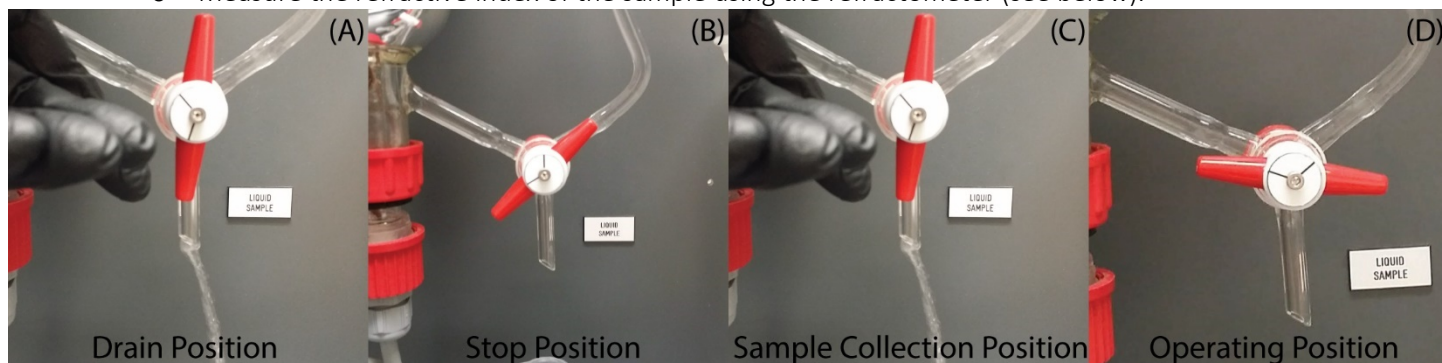

Figure 2 Liquid valve positions. A. Drain position, B. Stop position, C. Sample collection position, D. Operating position.
- Turn the Liquid Sample Valve to the *Drain Position* indicated in Panel A of Figure 2. Liquid will begin to flow into the waste container.
- Turn the valve so that flow stops as pictured in Panel B of Figure 2. DO NOT return the valve to default position as this will result in contamination of the liquid sample with the condensed distillate.
- Turn the Liquid Sample Valve to the position indicated in Panel C of Figure 2. Liquid will begin to flow into the sample container.
- Return the valve to operating position as indicated in Panel D of Figure 2.